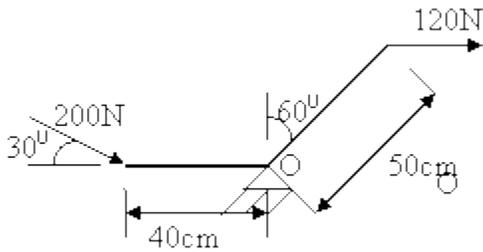

Fig 1
- Q.2** a. Determine the moment of the forces shown in Fig.1 about the hinge O.